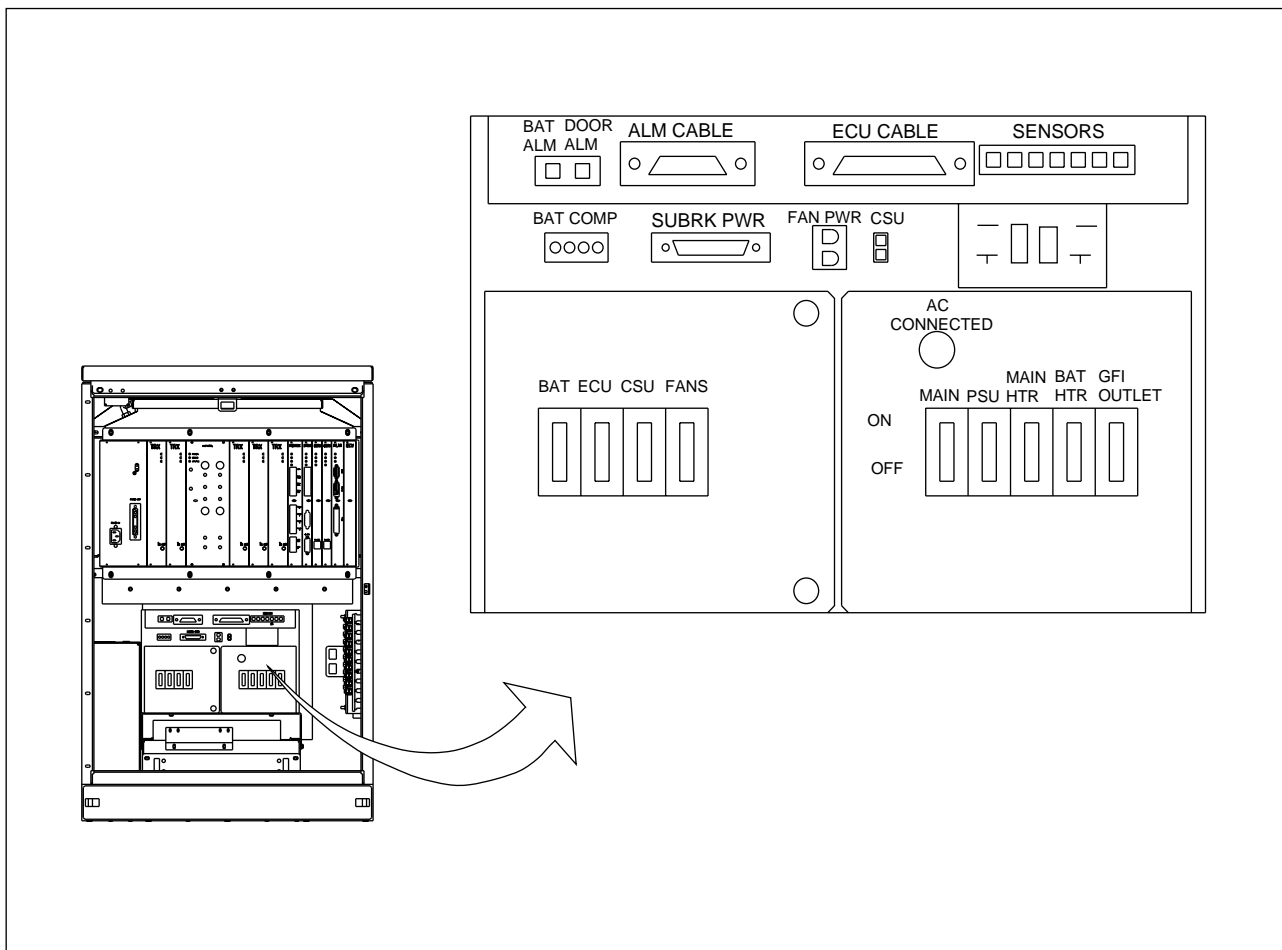

Figure 4-36. Cabinet Circuit Breakers on AC/DC Distribution Box
2. Position the following circuit breakers on the front panel of the AC/DC distribution box to ON in the following sequence (see Figure 4-36 on page 4-54 for the location of the circuit breakers).